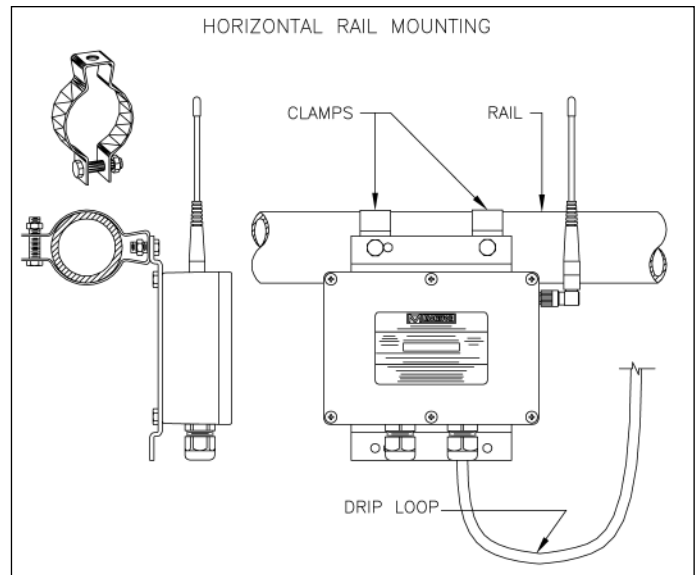

Figure 2
- 3) **Rail mounting:** (See Figure 2 & 3) It is anticipated that the Wireless Communication Interface will be mounted to conduits or railings located on the top of the silo. The universal mounting plate supplied with each unit can be attached to the back of the enclosure with the two screws provided. Determine the piping diameter, source suitable conduit clamps (not provided due to so many possible sizes) then clamp the mounting plate to the conduit/railing. Various hole patterns are provided in the plate to permit optimum clamp sizing. Do not modify the enclosure in any way as weatherproofing and internal electronics may be compromised. Instead, make any modifications to mounting plate.